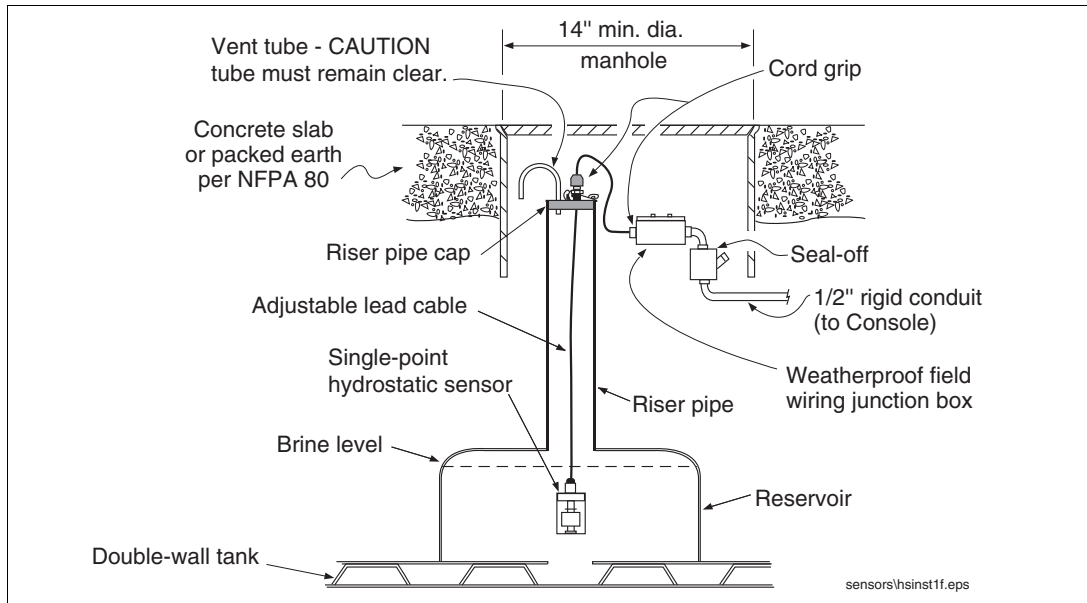

Figure 6. Single-Point Sensor Installation
2. Install a cord grip bushing/nut into one of the two riser cap fittings. Loosen the nut and push the straight end of the vent tube down through the bushing (ref. Figure 6) about an inch and tighten the cord grip nut. Insert the remaining cord grip bushing and nut from the riser cap kit in the other riser cap fitting. Push the sensor cable up through the loosened second cord grip. Place the cap in the riser and snap down the cap lever to seat the gasket against the inside of the pipe.
9. Secure the sensor in position by tightening the cable cord grip in the cap (see Figure 6).